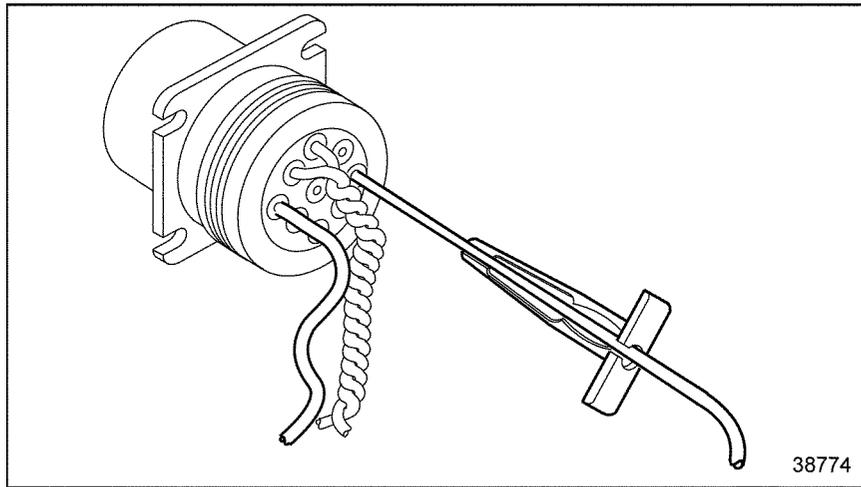

Figure 3-17 **Removal Tool Position**
1. With the rear insert toward you, snap the appropriate size remover tool over the cable of contact to be removed. See Figure 3-17.